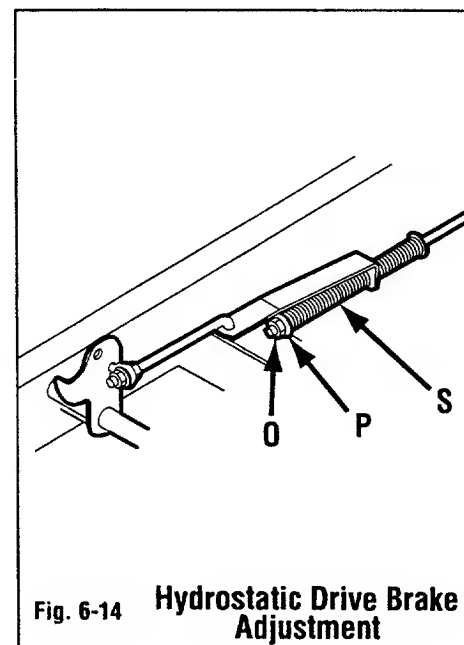

Fig. 6-14
- Adjust locknut (O, Fig. 6-14) so a gap of 1/16" exists between washer (P) and spring (S).